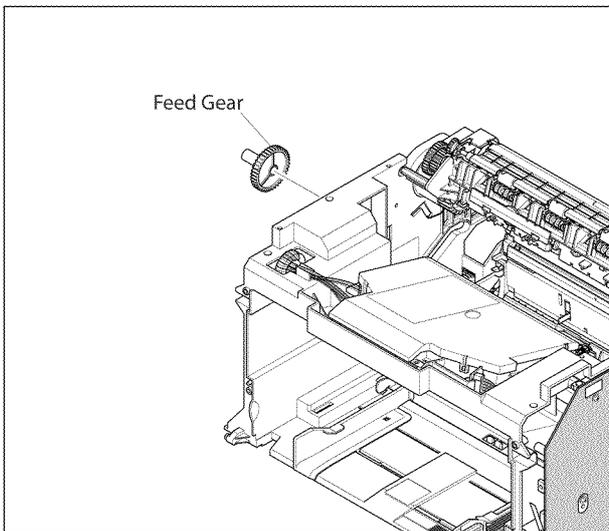

Figure 3
7. Remove the feed gear if necessary, Figure 3.